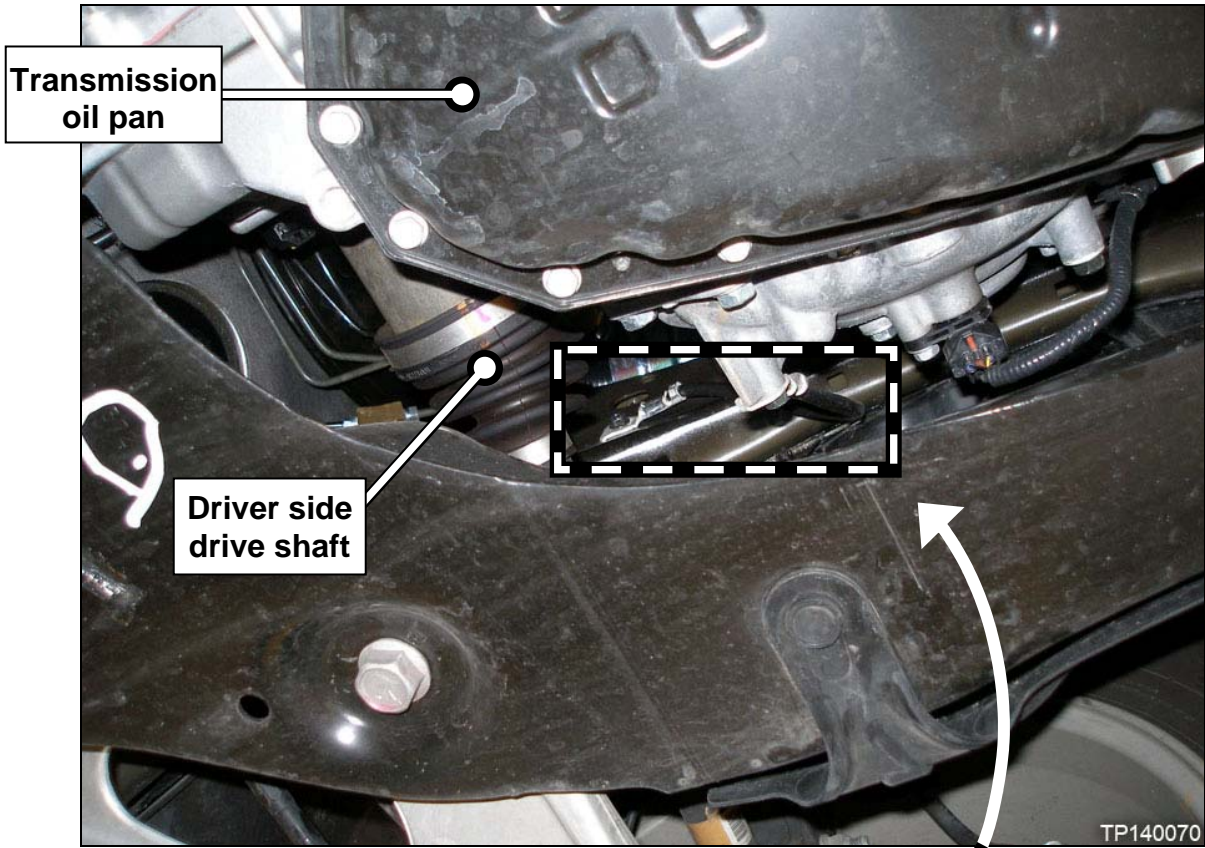

Figure 1: Ground wire.
- See page 2, Figure 1 for ground wire location.